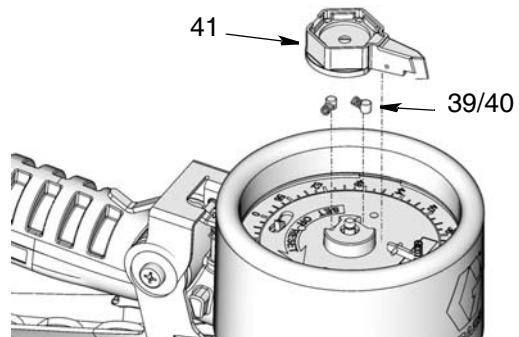

FIG. 34
4. Install the needle pointer (41), springs (39) and pins (40) as shown in FIG. 34.